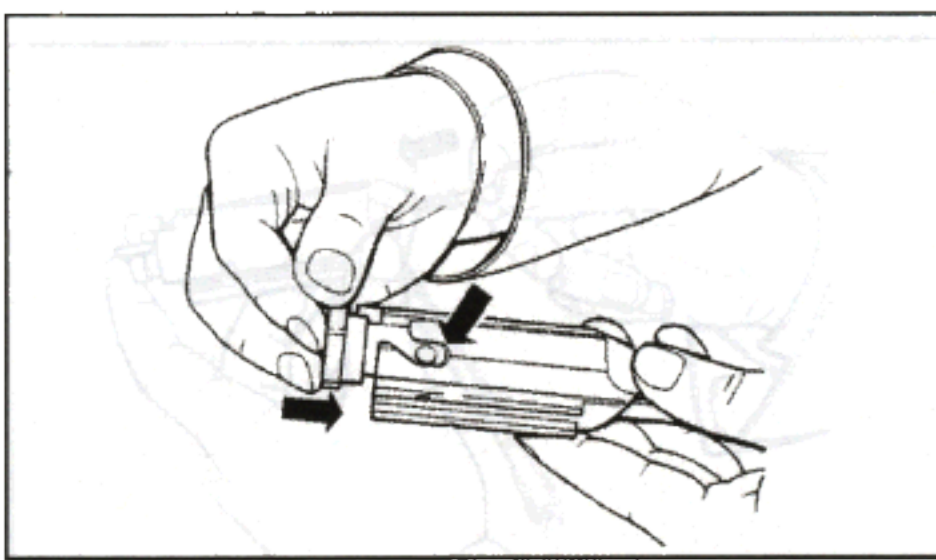

Figure 31. Installing the bolt head into bolt carrier
- A. **Install the bolt head** – Insert the bolt head into the front of the bolt carrier with the extractor to the right (Figure 31).